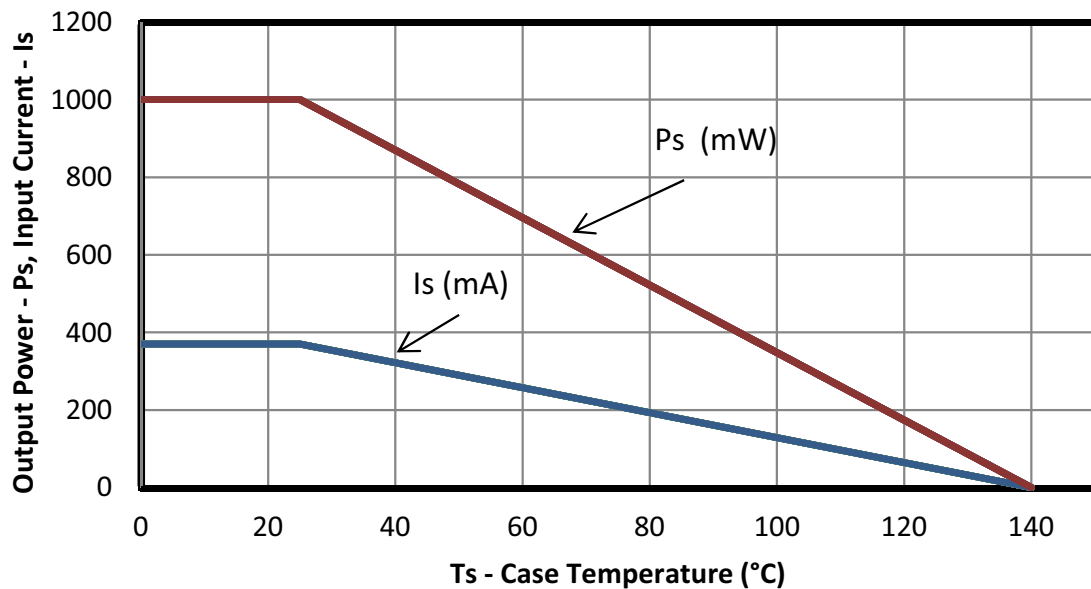

Figure 3. (SOIC-8) Thermal Derating Curve, Dependence of Safety Limiting Values with Case Temperature per DIN EN 60747-5-2 and VDE0884-10
**Note:** Maximum value allowed in the event of a failure; also see the thermal derating curve in Figures 3, 4, and 5.